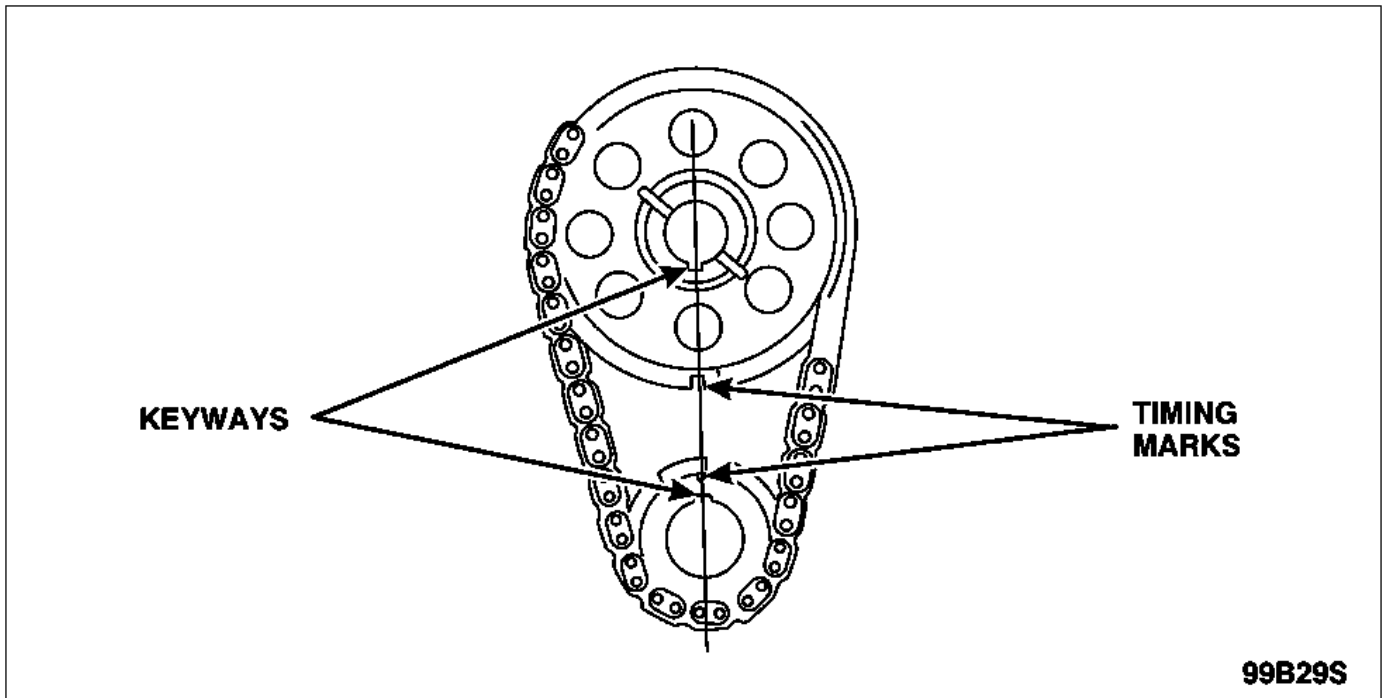

FIGURE 19
3. Make sure the timing marks and keyways are aligned. See Figure 19.